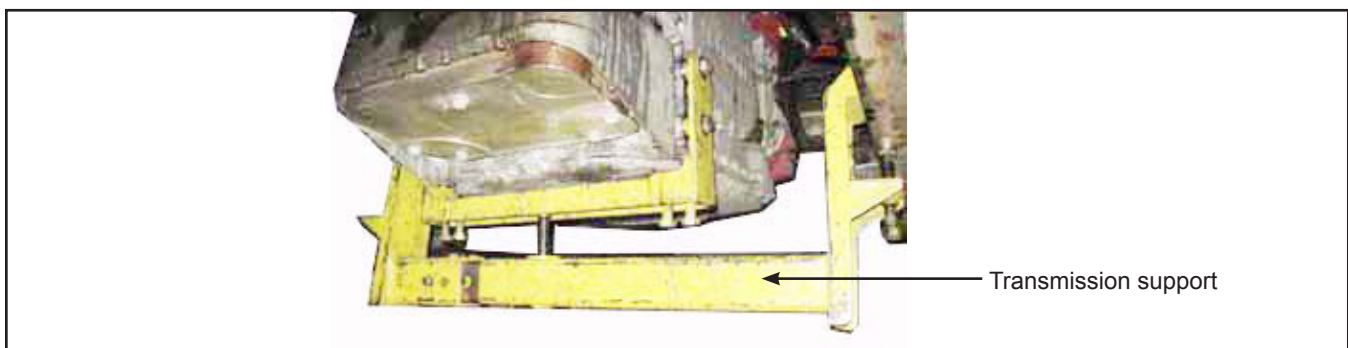

Figure 4 - Typical Transmission Support
- 1.7. Support the transmission from underneath using a typical support. See Figure 4.